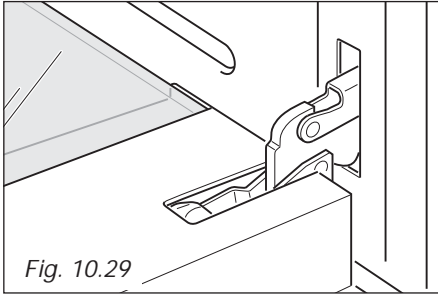

Fig. 10.29
- Fully open the oven door (fig. 10.29).